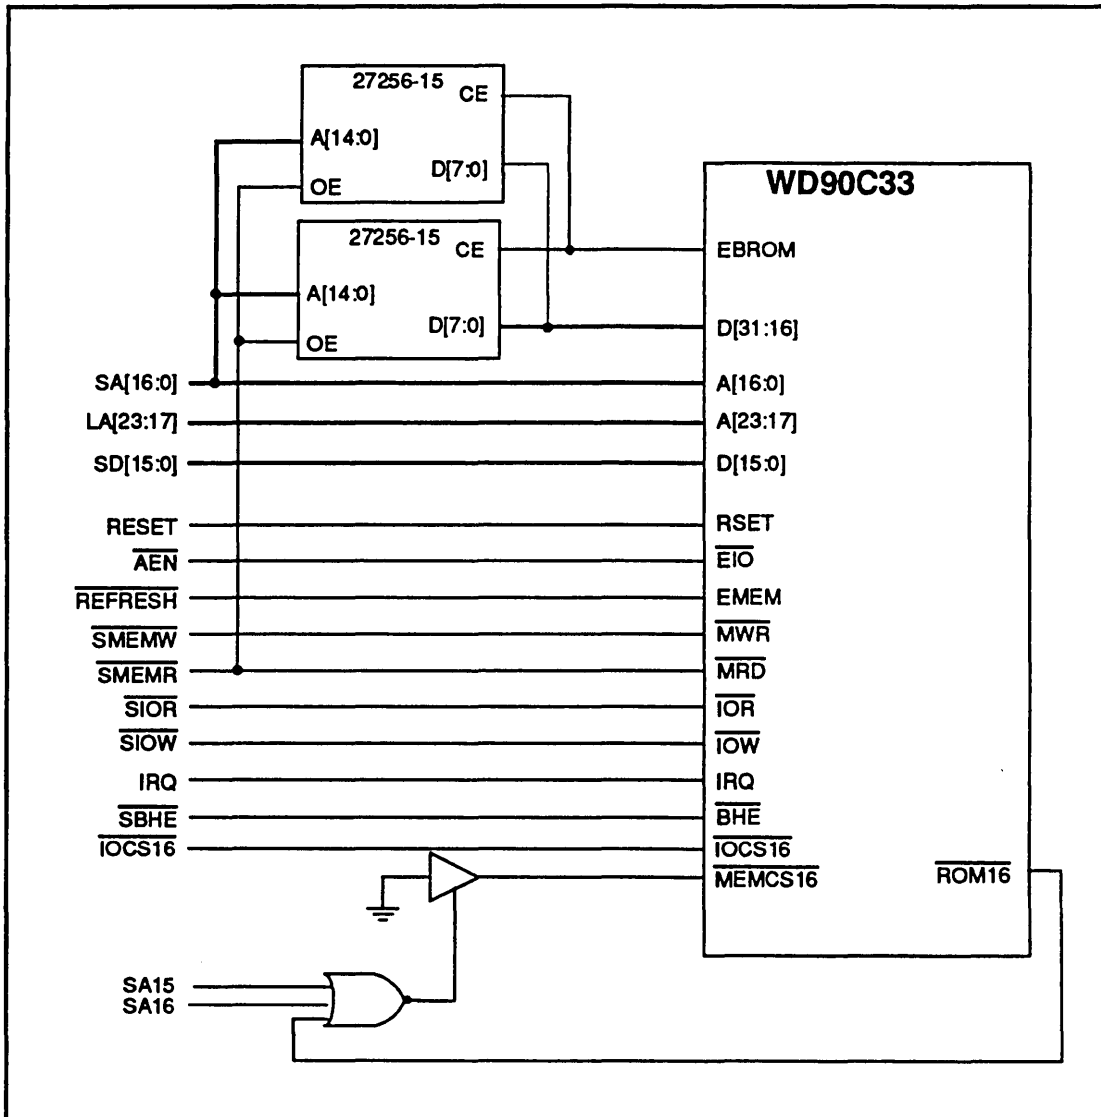

FIGURE 3-6. AT COMPATIBLE 16-BIT INTERFACE WITH 16-BIT BIOS
- Figure 3-6. AT Compatible 16-Bit Interface with 16-Bit BIOS
Figure 3-6 shows the interface between a 16-Bit AT compatible bus, a 16-Bit BIOS, and the WD90C33 Controller. This MEMCS16